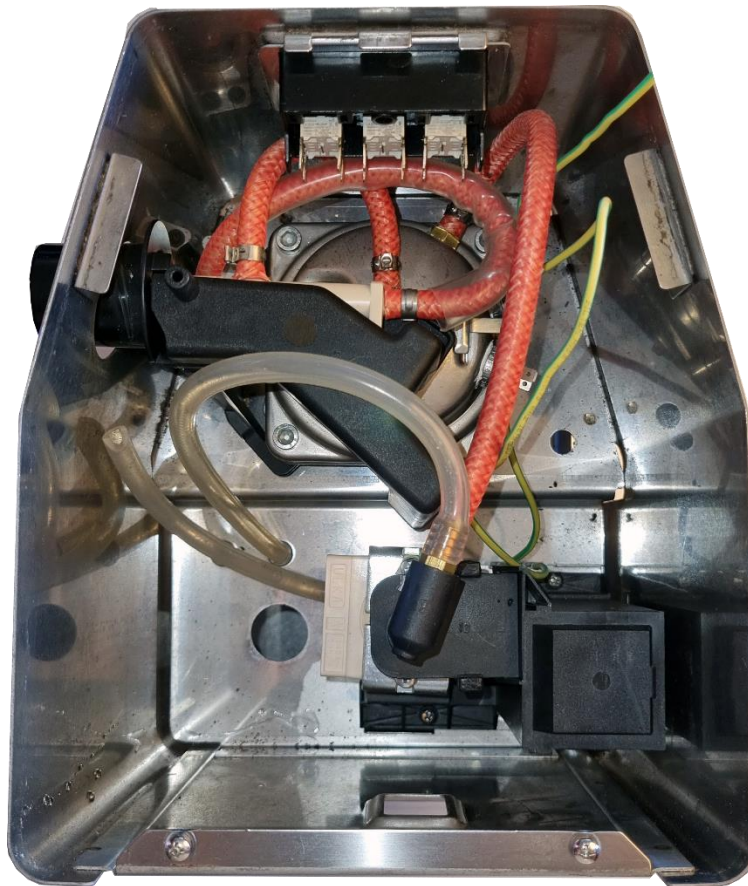

Fig. 3.4 – Step 3 final
- Refit the plastic stopper then screw the pump support back in place. Do not insert the hose through the same hole under the pump, let the hose inside the machine like in fig.3.4. We will need the hose to mount the flow sensor .